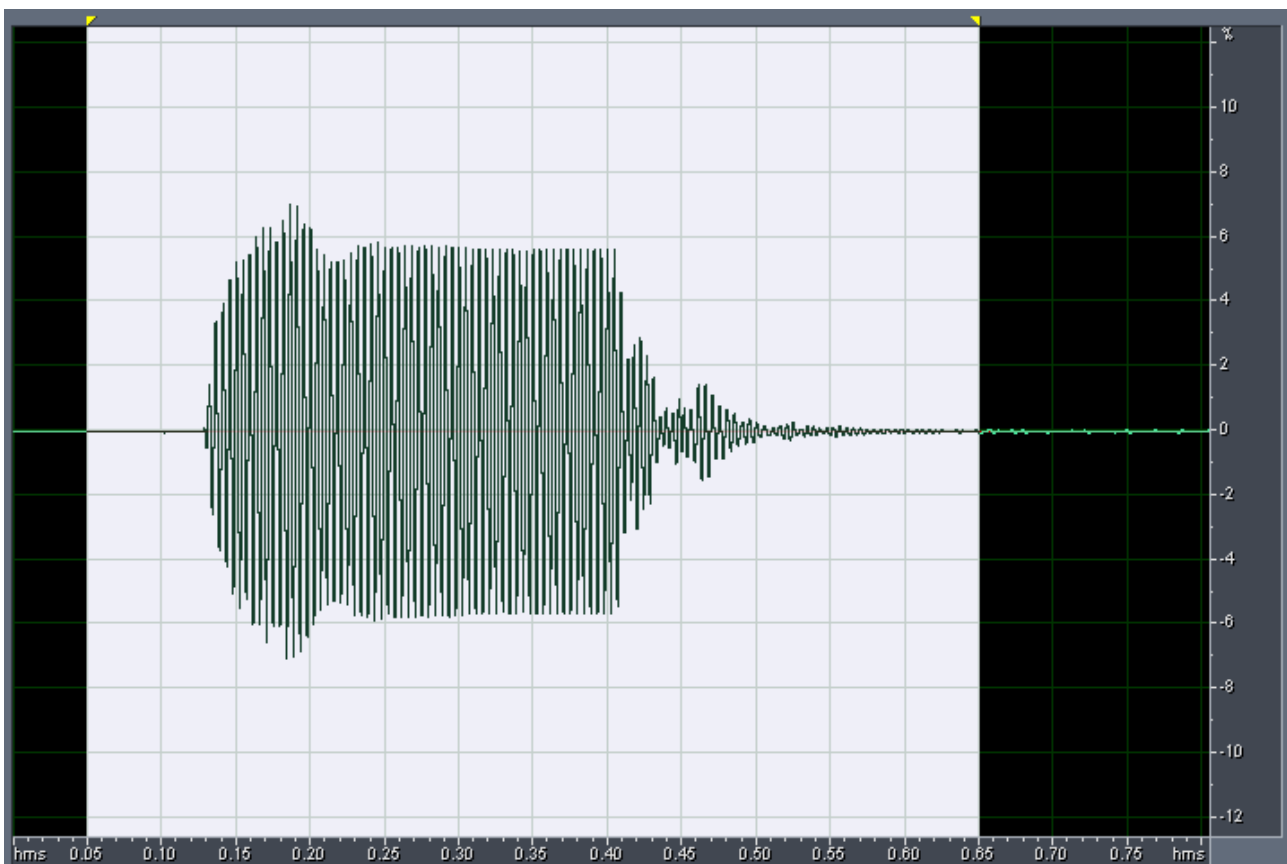

Fig. 1 Room transient, 250Hz
6. Filter effects should be applied to the recorded waveform to remove unwanted noise and harmonics. For example, the recording shown below in Fig. 1 is a 250Hz tone burst recorded in a small domestic room with extra room treatment comprising 10 sq meters of absorption. The following was used.
Early reflections may combine to seriously distort the start of the transient at either end of the waveform giving rise to unexpected peaks before the steady state reverberant field is established. These can be seen in Fig. 1 and 2 which make it difficult to determine the estimated start and stop of the transient. Moving the microphone in $\frac{1}{4}$ wave increments will provide a compromise solution.